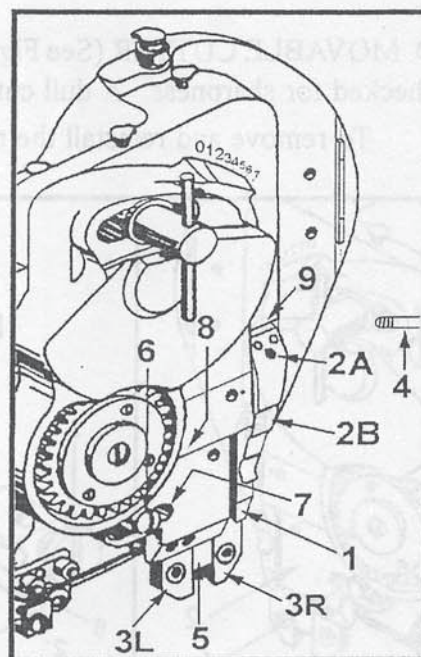

Figure 15-Removing and Replacing Gripper, Formers and Driver
1. Remove the cutter block holding screw (1), the cutter block holding plate (3) and the cutter block (2), also loosen the stationary cutter holding screws (7) and slightly back-out the stationary cutter.
2. While manually holding the cutter plunger (4) under spring tension back-out plunger holding screw (5) until the plunger is free. Slide the movable cutter (6) off of the plunger (4) and replace or sharpen the movable cutter.
3. Slide the top of the movable cutter (6) into the groove in the cutter plunger (4) with the flat cutting surface of cutter turned toward plunger.
4. Slide the movable cutter (6) and the cutter plunger (4) into their holes in the cutter block (2). Then compress the plunger by hand until the top of the plunger is just below the top of cutter block body. Then tighten the plunger holding screw (5) until it engages the slot in the side of cutter plunger. Note: If the plunger holding screw (5) protrudes from its hole in the cutter block body (2) it is not correctly engaged with slot in plunger.
5. Slide the stationary cutter (8) back into the cutter block body until its cutting end surface contacts and is parallel with cutting surface of movable cutter (6). The stationary cutter (8) will align the movable cutter (6) automatically with slight pressure. When the cutters are correctly aligned tighten stationary cutter holding screws (7).
6. Reinstall the cutter block (2) onto its holding plate (3). Be sure to position the cutter block (2) so that the cutter block adjusting screw head (9) engages in the first (left side) slot in the cutter block control slide (10). With the cutter block (2) correctly positioned replace and tighten cutter block holding screw (1).
7. Rotate the stitch head's pulley by hand and check that the movable cutter (6) operates freely. Check that cutter stroke is correct. If the movable cutter (6) has been resharpened or a new cutter has been installed the cutter stroke may need resetting, refer to Step 5-How to Set the Movable Cutter.
E. GRIPPER (See Figure 15)-Check for excessive wear on the edges of the gripper bar anvil (1), the surface upon which the staples are formed, usually evidenced by rounded corners on a formed staple. Also check for signs of wear on the surface of the gripper bar that contacts the gripper bar clamp piece spring (2) and for sufficient tension applied to the gripper bar (1) from the gripper bar clamp piece spring (2). If the clamp piece spring is overly worn or the spring tension is not sufficient the wire will slip while being held in the gripper, usually resulting with one-legged staple(s).
2. Unscrew the gripper spring screw (2) and remove the gripper spring (9) from the head.
3. Unscrew and remove the gripper pivot screw (4). This permits the gripper assembly (1) to be removed from the head.
4. When reinstalling the gripper assembly (1) be sure that the upper stud in the gripper bar clamp piece engages the slot in the gripper clamp piece control slide. Then replace and tighten the gripper pivot screw (4), the gripper spring (9) and the gripper spring screw (2).
F. FORMERS AND DRIVER (See Figure 15)-Check for wear in the grooves of the formers (3L) and (3R), usually evidenced by buckled staple legs. The driver (5) should be checked for broken tips or worn ends and/or sides. Some types of drivers are double-ended and can be reversed in the drive bar when one end is worn.